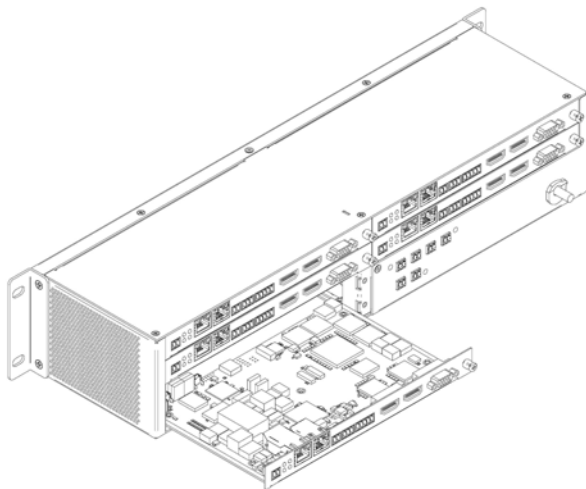

FIG. 1 INSTALLING CARDS
1. Gently slide the card into the cage slot. Make sure the card is properly aligned with the guides. The card's front LED indicators should align with the holes in the cage's faceplate. See FIG. 1.